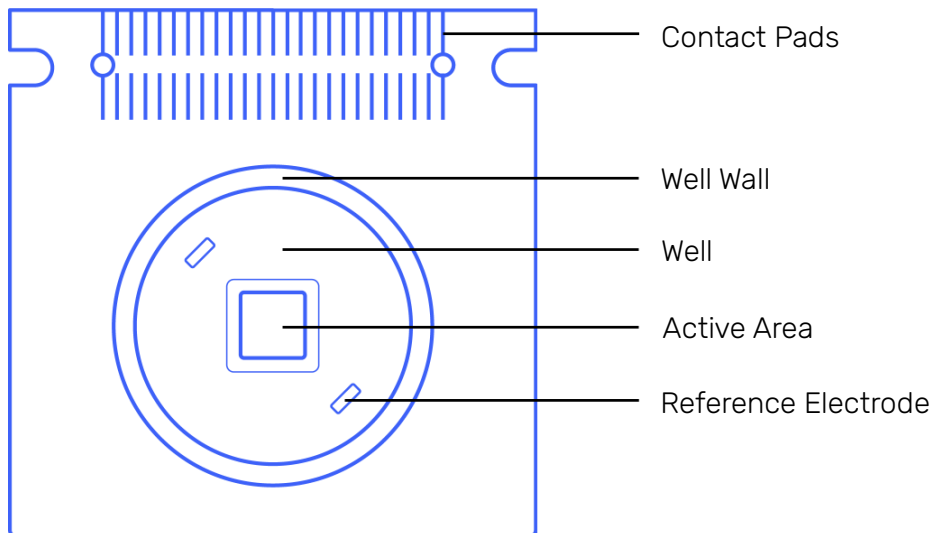

Figure 1: Diagram of CorePlate™ 1W displaying the Contact Pads, Well and Active Area.
- Do not touch the contact pads on the front of the chip (see Fig. 1). Always handle CorePlate™ 1W by using plastic gloves.
- Do not touch the Active Area (see Fig. 1) of the microchip integrated in the CorePlate™ 1W with any tools except those specifically allowed (see section “Cleaning Procedure for CorePlate™ 1W”). In particular, hard or semi-hard objects (e.g. metal or plastic tools) can irreparably damage the electrodes and the on-chip circuits.
- Before inserting CorePlate™ 1W into the BioCAM Duplex, clean the contact pads on the front of CorePlate™ 1W (see Fig. 1) with tissue paper soaked in ethanol 96% and let it dry for a few seconds.
If the chip of CorePlate™ 1W remains dirty after the standard cleaning procedure, you may have to repeat this procedure, including gently brushing the surface of the Active Area (see Fig. 1) with a soft, clean paintbrush during the Detergent Application step. Be aware that this operation can damage the Active Area of the chip and is advised only as a final option if the standard cleaning procedure fails to fully clean the chip. Ensure that the paintbrush is completely clean to avoid introducing more debris into the environment, and ensure that brushing is performed very gently and with utmost care to minimize the risk of damage to the electrodes.
1. **Rinse Wells with 70% EtOH.** Rinse the well of CorePlate™ 1W (Fig. 1) thoroughly with 70% EtOH and delicately flush the liquid on the Active Area with a Pasteur pipette.
6. **Soak Well in PBS & Clean Reference Electrodes.** After rinsing with PBS, fill the well with PBS. Carefully remove any air bubbles trapped in the Reference Electrodes (Fig. 1) and leave to soak for 1-2 minutes.